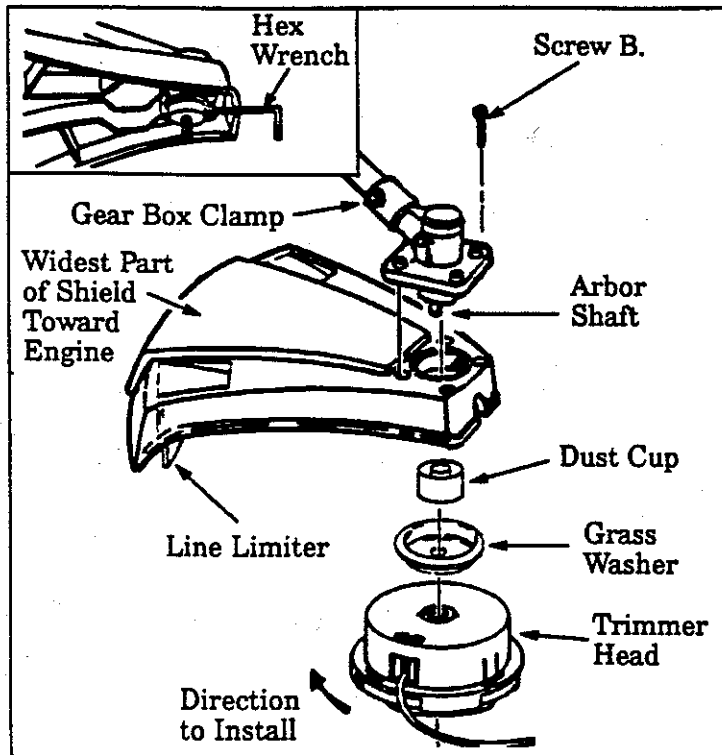

Figure 5
Failure to install the shield in the position shown in Figure 5 can result in serious injury to the operator. The length of the shield must be aligned with the length of the drive shaft housing. Direct the widest part of the shield toward the engine.
- Place the Shield under the Gear Box and align screw holes. Figure 5.
- e. Install the Dust Cup and Grass Washer over the Arbor shaft. Make sure the Grass Washer is against and curved over the dust cup. Figure 5 .
- f. Start threading the Trimmer Head onto the Arbor Shaft as shown in Figure 5 .
- h. Insert the small hex wrench (provided) into the aligned holes to keep the Arbor Shaft from turning. Figure 5 (inset).